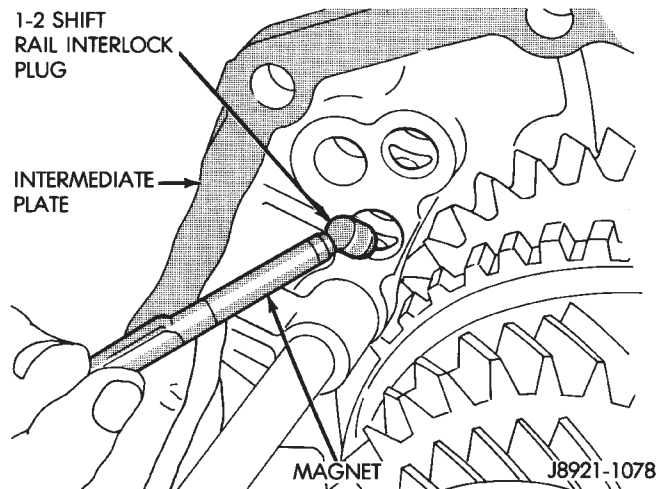

Fig. 85 Install 1-2 Shift Rail Interlock Plug
- (14) Install 1-2 shift rail interlock plug in the intermediate plate (Fig. 85).